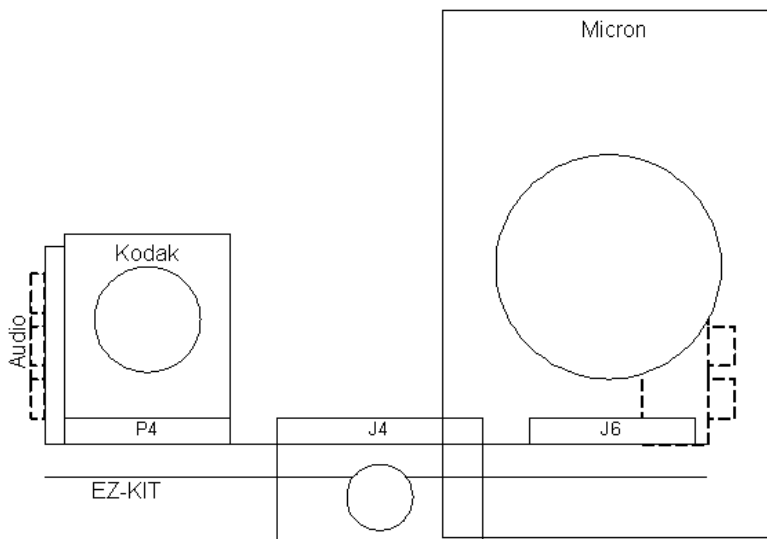
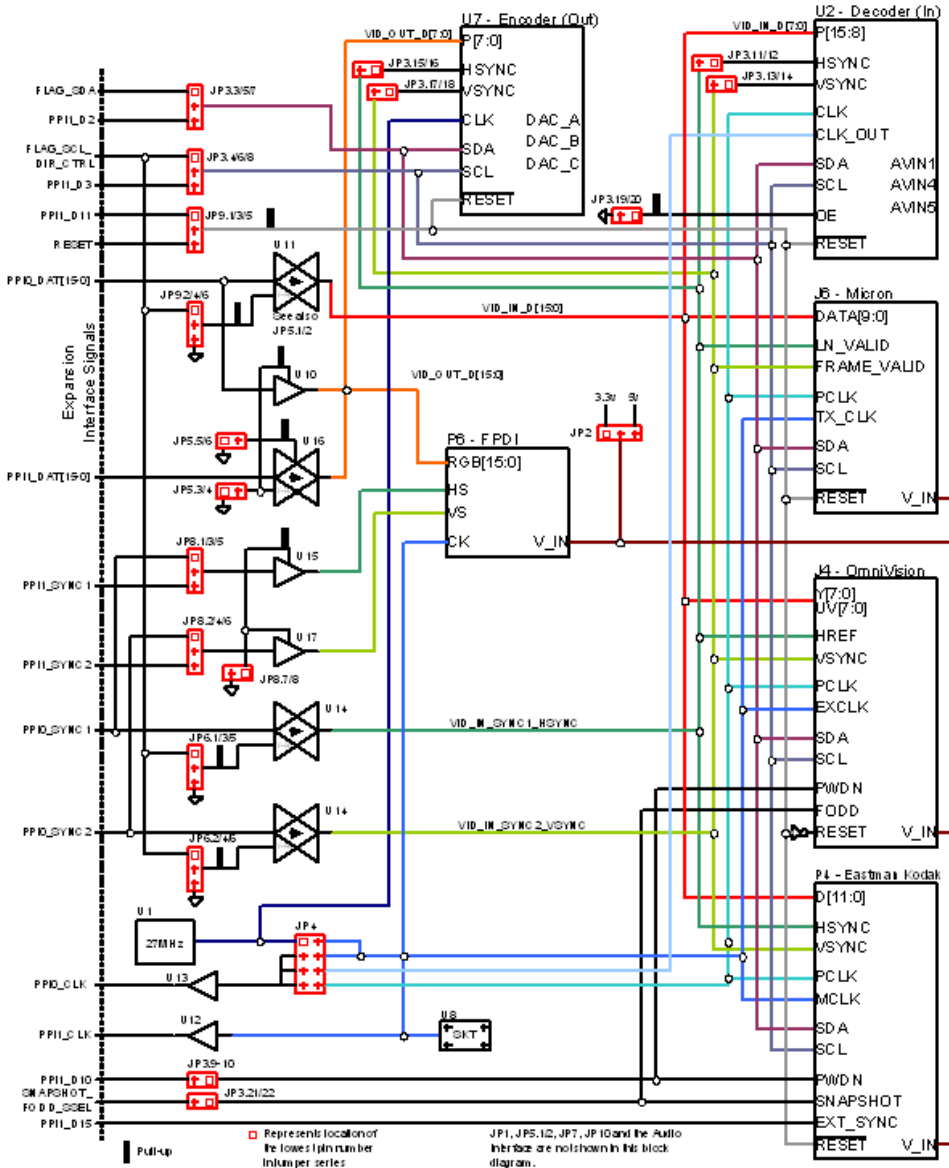

Figure 1-1. Camera Orientation
Figure 2-1. A-V EZ-Extender Block Diagram
3. Set the jumpers on the extender board. Use the block diagram in Figure 2-1 on page 2-3 in conjunction with “Jumpers” on page 2-7.
The Blackfin A-V EZ-Extender supports audio applications with the on-board AD1836A multichannel 96 kHz audio codec. The AD1836A codec is a high-performance single-chip device that provides three stereo digital-to-analog converters (outputs) and two stereo analog-to-digital converters (inputs), using Analog Devices patented multibit sigma-delta architecture. The board includes a serial peripheral interface (SPI) port, enabling the processor to adjust volume and other parameters. For a general overview of the audio interface connections, see Figure 2-1 on page 2-3; for details, see “A-V EZ-Extender Schematic” on page B-1.
The Blackfin A-V EZ-Extender supports video input and output applications with an on-board video encoder and decoder. The ADV7179 video encoder provides up to three output channels of analog video, while the ADV7183B video decoder provides up to three input channels of analog video. Both the encoder and decoder connect to PPI0 of the expansion interface, while the encoder also can connect to PPI1 (if the processor has two PPI ports). For a general overview of the analog video interface connectors, see Figure 2-1 on page 2-3; for details, see “AV_RESET Source Jumper \(JP9.1/3/5\)” on page 2-14.
The Blackfin A-V EZ-Extender has three right-angle connectors (J4, J6, and P4) with control signals necessary to interface with three camera evaluation modules from different manufactures. For a general overview of the camera interface connections, see Figure 2-1 on page 2-3; for details, see “A-V EZ-Extender Schematic” on page B-1. Figure 1-1 shows the orientation of the camera modules as each camera connects to the board.
The flat panel display interface (FPDI) consists of a 31-pin DB9 connector linked to the PPI port and frame sync signals of the processor. For a general overview of the display interface connections, see Figure 2-1 on page 2-3; for details, see the “A-V EZ-Extender Schematic” on page B-1.
A block diagram of the Blackfin A-V EZ-Extender is shown in Figure 2-1.
In Figure 2-1, unidirectional buffers are shown as triangle symbols, while bidirectional buffers are shown as two overlapping triangles. For both types of buffers, an output-enable signal comes out of the top and is active `LOW`. For bidirectional buffers, a second signal for the direction is shown. When this net is pulled `HIGH`, the buffer is driving in the direction of the arrow in the center; when `LOW`, the buffer is driving in the opposite direction.
The PPI_CLK signals of PPI0 and PPI1 are configured by the clock setup jumpers (see Table 2-5). For more information, refer to Figure 2-1 on page 2-4.